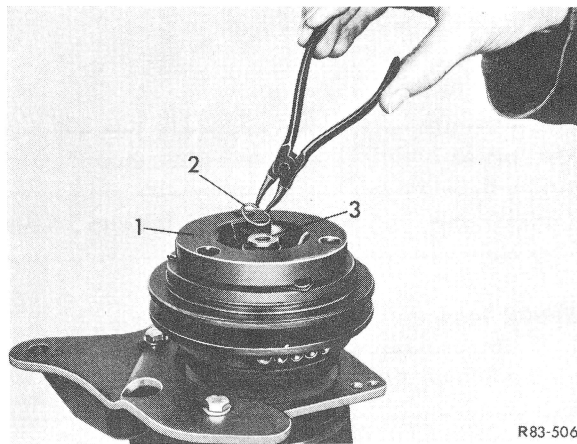

Figure 3
3 Remove locking ring (2) and spacer (3) from spring plate (1) (Fig. 3).